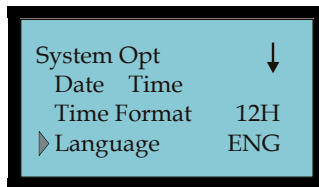

Figure 2-91 System Options Language
1. From the System Opt menu select Language (see **Figure 2-91**).
1. From the System Opt menu select Fmt [format] (see **Figure 2-91**).